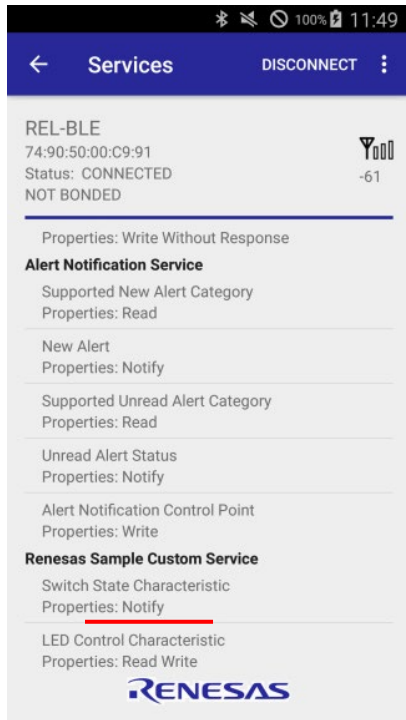

Figure 1
2. (Figure 1) Confirm that "Properties" of "Switch State Characteristic" is "Notify" on "Service" screen.